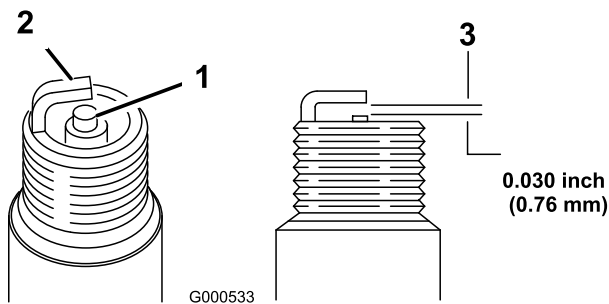

Figure 26
1. Look at the center of the spark plug (Figure 26).
2. Check the gap between the center and side electrodes (Figure 26) and bend the side electrode if the gap is not correct.